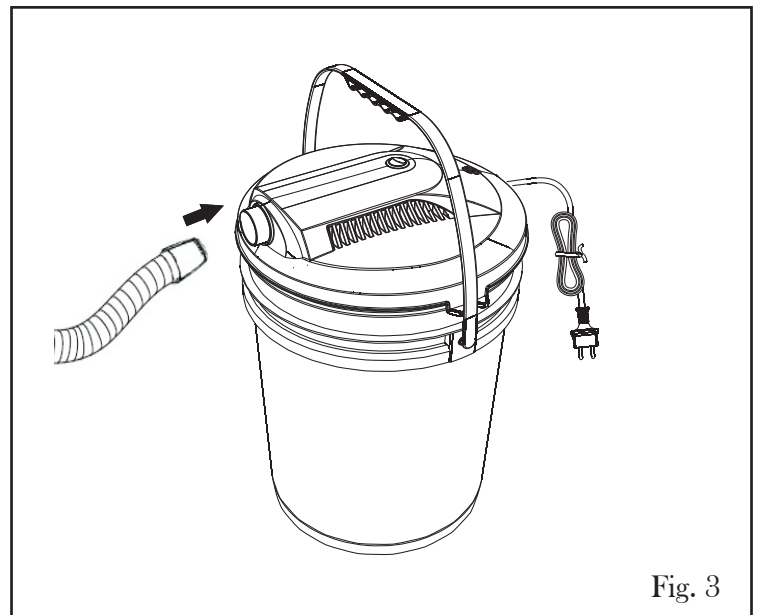

Fig. 3
4. Insert the other end of the hose into the suction port (Fig. 3).